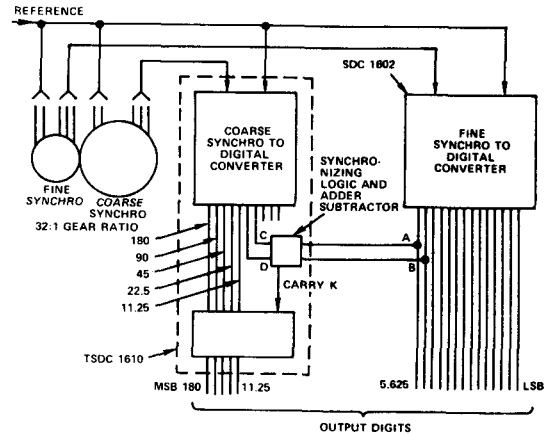

Figure 6. Diagram Showing the Arrangement of the Two SDCs Together With Synchronizing Logic
Models TSDC 1608 thru 1611 are 10 bit tracking synchro to digital converters with electrical characteristics the same as the SDC 1603 except that the TSDCs include two speed processing logic for binary coarse/fine systems. The difference between the models is in the positioning of the CD connections, see Figure 6. Modules 1608, 1609, 1610 and 1611 are suitable for gear ratios of 8:1, 16:1, 32:1 and 64:1 respectively. The 400Hz versions have all the transformers inside the module; 60Hz versions have an external transformer module. The model number e.g., TSDC 1608 must be followed by an XYZ code defining the temperature range, frequency and voltages; for details see the ordering information which gives the coding.
Figure 6 shows two shafts coupled by gears which have the coarse and fine synchros coupled to synchro to digital converters which give out angular information in natural binary form with the MSB of each converter corresponding to 180° rotation of the appropriate shaft. For the purpose of this point the gear ratio is taken to be a binary number of 32:1, for non-binary gear ratios the digital outputs are modified to have similar bit weights and the same type of synchronizing logic is used.
In Figure 6 the unit inside the TSDC 1610 shown as the synchronizing logic unit compares the inputs A and B and according to the result either adds or subtracts "1" from DC which may result in a carry into the adder/subtractor unit. The logic of the comparison is: if  $A=B=0$  add 1 to C. If  $A=B=1$  subtract 1 from C. If  $A \neq B$  do not change C. The backlash is assumed to be less than the angle represented by C. All the possible states of the logic levels A, B, C and D that may occur as outputs of the SDCs together with the carry output are shown in Table 1.
| Harmonic Distortion (See Figure 6 andOutput Loading)                                   | V/μs typ (min)     | 400 (200)                           | *                                   | 250 (120)            | 250 (100)          |